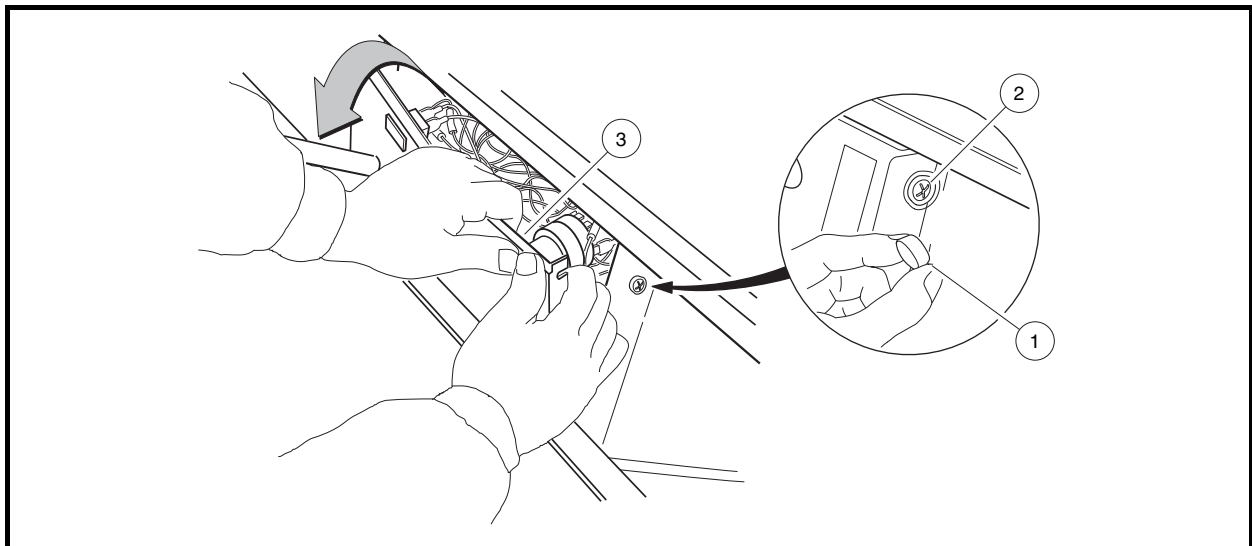

Figure 13-1 Dash Removal
2. Remove the center dash panel (**Figure 13-1, Page 13-1**).
- 2.1. Remove the plastic cap (1) covering the mounting screw (2) on each side of the center dash panel (3) (**Figure 13-1, Page 13-1**).
**NOTE:** Bending the top right corner of the center dash inward during removal will prevent the terminals (7) on the back of the key switch from touching the metal frame around the dash. **(Figure 13-1, Page 13-1)**
**NOTE:** Take care to prevent key switch terminals and wires from touching the metal frame around the dash. **(Figure 13-1, Page 13-1).**
- 3.1. Remove the center dash panel (**Figure 13-1, Page 13-1**).
- 3.1.1. Remove the plastic cap (1) covering the mounting screw (2) on each side of the center dash panel (3) (**Figure 13-1, Page 13-1**).
**NOTE:** Take care to prevent key switch terminals and wires from touching the metal frame around the dash. (**Figure 13-1, Page 13-1**).
5. Press the locking tabs (11) on each end of switch and push switch out of case.
- 4.1. Install center dash by reversing removal procedure. Make sure key switch terminals do not touch frame and that the center dash panel is properly seated and snapped into place. **(Figure 13-1, Page 13-1).**